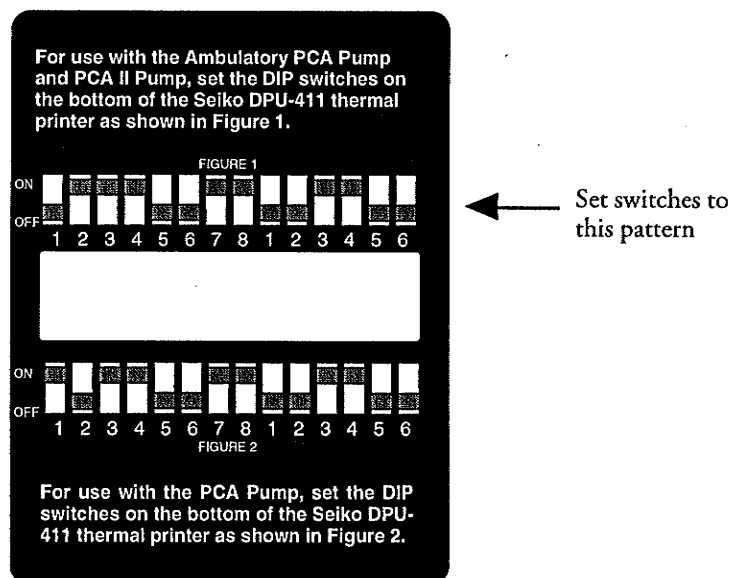

Figure 2-7 • Printer dip switch settings
- Set the dip switches as shown in the top row of the label shown in Figure 2-7.